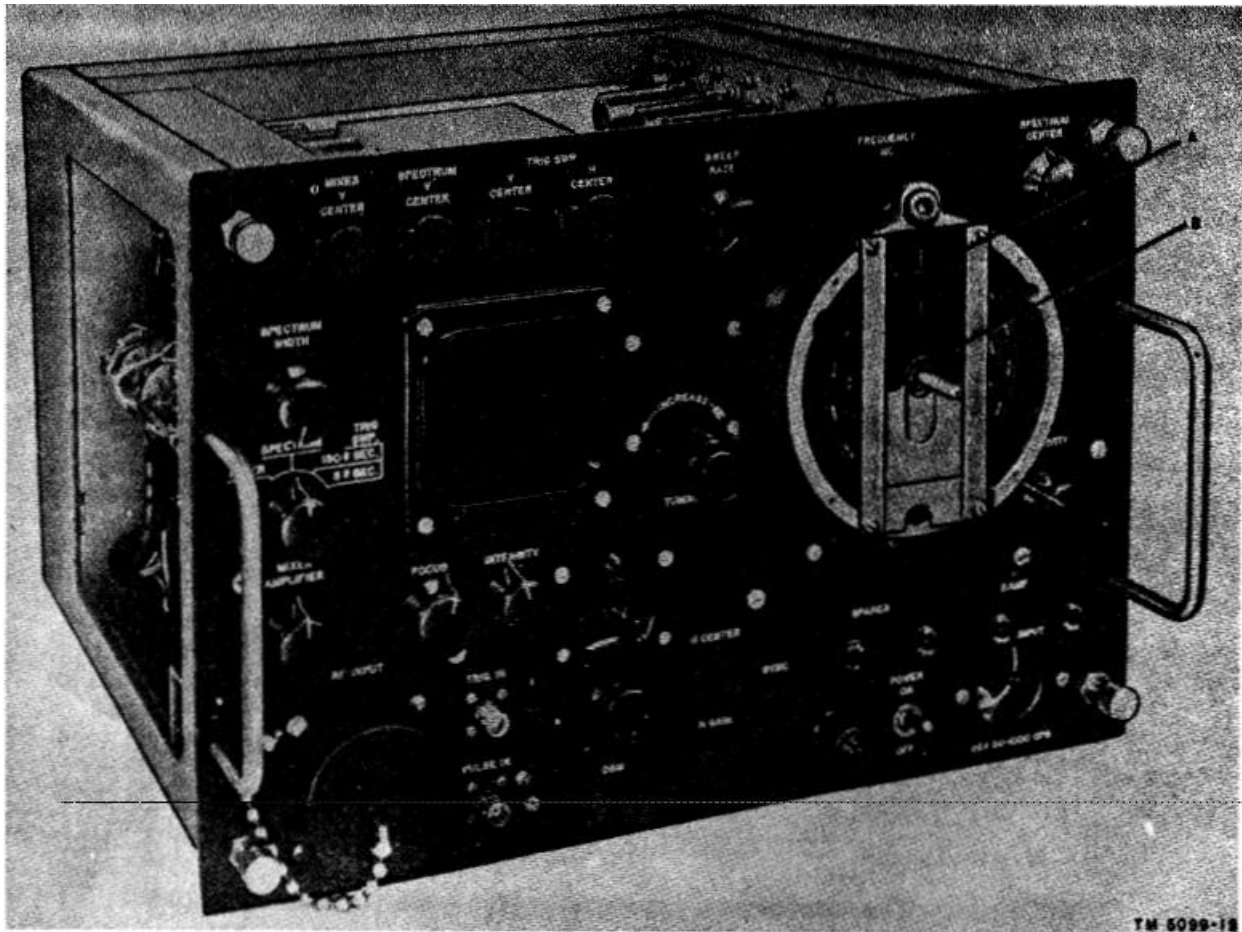

Figure 17. Lubrication of frequency drive assembly.
a. *Lubrication of Frequency Drive Assembly* (figs. 17, 45, and 50).